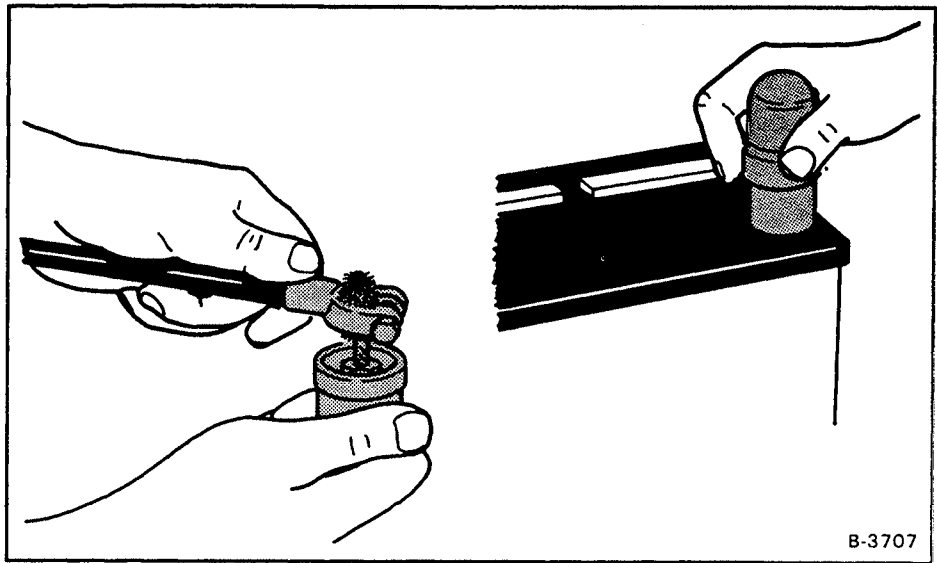

Fig. 64 Cleaning Battery Terminals
3. Clean the terminal posts (Fig. 64) of the new battery. Install the battery in the battery compartment. Install the hold down clamp.